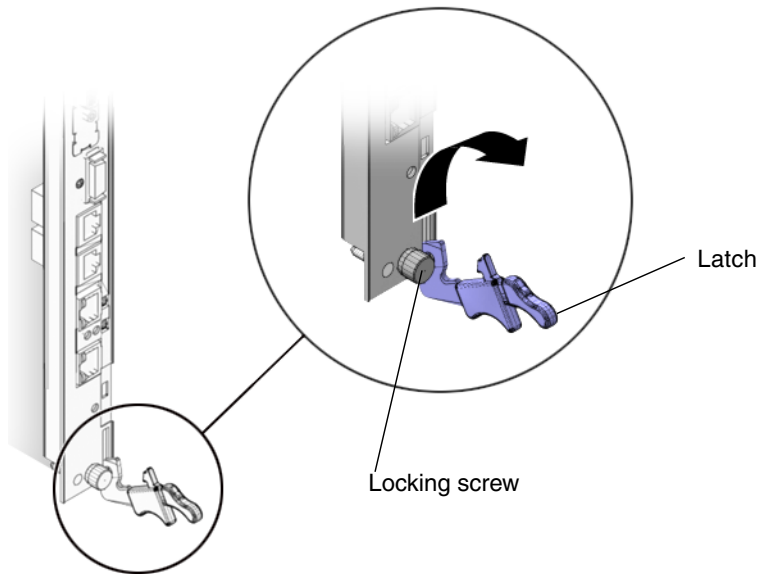

FIGURE 2-13 Injector/Ejector Latch and Locking Screw on the Rear Transition Module
6. **Prepare the rear transition module by opening the injector/ejector latches at the top and bottom of the module (FIGURE 2-13).**
7. Tighten the locking screws and the top and the bottom of the Netra CP3020 board to ensure that it is secured to the ATCA shelf (FIGURE 2-13).